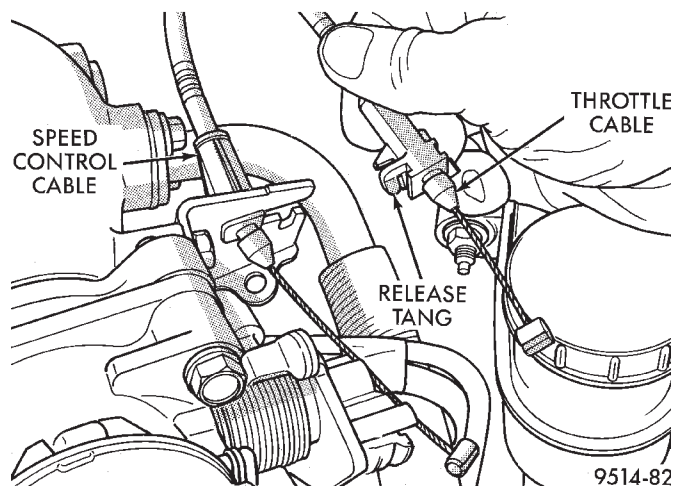

Fig. 77 Throttle Cable Attachment
(3) Push release tang toward dash panel on throttle cable and slide cable out of bracket (Fig. 77).
(4) Slide speed control cable out of bracket, if equipped (Fig. 77).
(5) Remove EVAP purge hose from nipple on throttle body.
(6) Remove connectors from throttle position sensor and idle air control motor.
(7) Remove bolts holding throttle body to intake manifold. Remove throttle body.